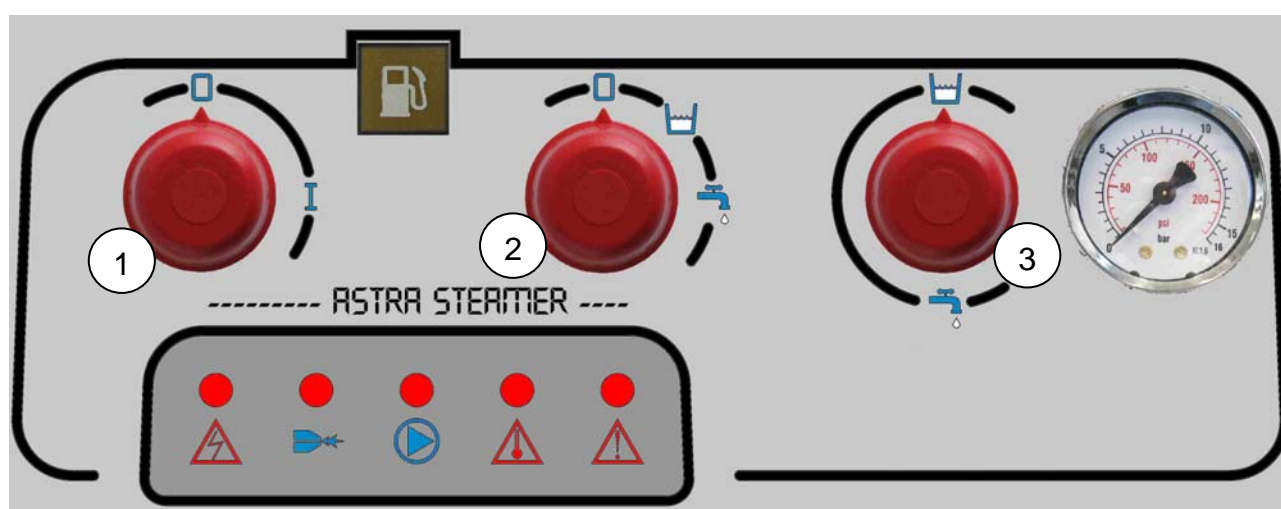
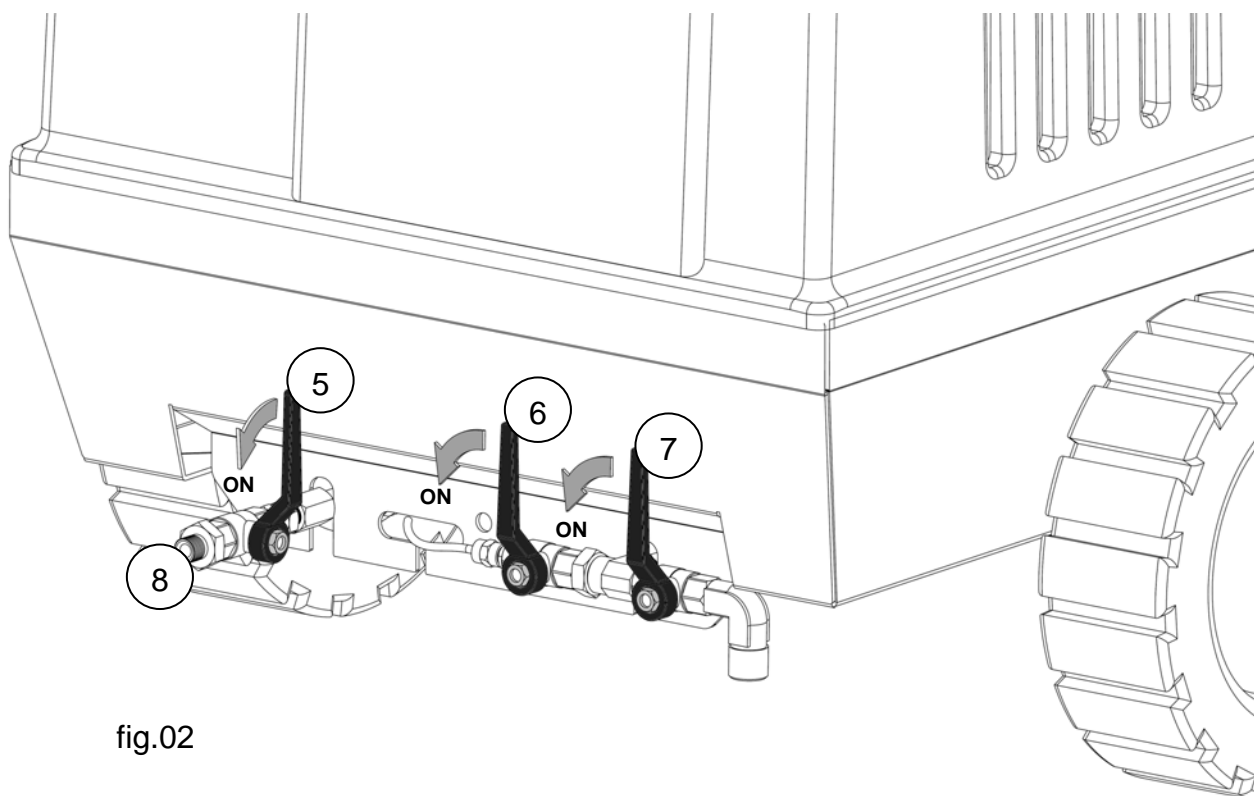

fig.01
fig.02
- a. Release the high pressure fittings n° 24 (fig.07) from steam hose n° 22 (fig.07). Connect the hose to the outlet fittings 8 or 9 (fig.02) tightening them well (do not use glue), then connect the steam hose to the steam gun 23 (fig.07) by tightening well the fittings (do not use glue).
- b. Open valve 4 or 5 corresponding to the outlet where you connected the hose (fig.02) check the other one is closed. If both the 2 outlets are connected (the double hose connection is predisposed) open both of them.
- e. In case of mobile operation, set the indicator of handle 3 (fig.01) to pos. , (in case of stationary operation please go to point f.) Check there is enough water in the apposite water tank and eventually add some through the intake 11 (fig.03).
- f. if You are using ASTRA STEAMER in stationary mode (connected to the water mains) set the indicator of handle 3 (fig.01) in position , connect the mains hose to the inlet fitting 12 (fig.03), then open the valve; when the water float tank is filled up, the flow will automatically stop.
- set the switch 1 (fig.01) on .
- set the second switch 2 (fig.01) on fixed operational mode  or in mobile one  depending on your choice at 2.e; 2.f. , then wait some seconds
If initial water level is under the minimum one, the machine produces 2 signals (one luminous and one sound):  + . If, after 60", the water level inside the boiler is still under the minimum the machine switches off for safety ; in this case, to go on with filling it You need to turn the switch 2 (fig.01) off (position ) and then turn it on to the operational mode chosen: stationary =  or mobile= .
- if, during cleaning operation the machine makes a signal  +  You need to refill the fuel tank as explained at 2.d. If the machine is working in mobile way and produces the signal  and not , refill the water tank as described at 2.e. Both the refill operations must be done only after positioning the switch 2 (fig.01) on ; Once finished the refill operations , position the same switch 2 (fig.01) on the operational mode chosen.
- In case You use the machine in mobile way and You need to remove the dirt by the flow power rather than temperature only, You can mix dry steam to water by the valve 6 (fig.02) so to operate more like a common pressure cleaner.
- e. **Switch off and appliance storing:** once finished cleaning operation, position switch 2 (fig.01) and switch 1 (fig.01) on ; open the gun to empty the steam left inside the boiler so to set the pressure down to zero, when pressure is 0, close valves 4 and 5 (fig.02) open the pistol to discharge the hose pressure completely.
→ If the machine is stored at temperature below to zero ($<0^{\circ}\text{C}$) remove the plastic cover by the screw 13 (fig.03), empty the water tank removing the hose 19 (fig.05) (apply a small pressure on the part 18 (fig.05)); empty the water float tank and the boiler by the valve 7 (fig.02). While keeping the above valve open turn, the switch 1 (fig.01) onto  and switch 2 (fig.01) onto  or  for 10 seconds to empty the water pump too. When no more water is flowing from the valve 7 (fig.02) close all the valves and reposition the switches 1 (fig.01) and 2 (fig.01) on . Finally, put the machine cover on the machine again.
- empty the water tank: take off the hose 19 (fig.05) by little pressure and the fixation bolt 18 (fig.05). empty the boiler by the discharge valve 7 (fig.02) and open the gun to get the air come into the boiler. After these 2 operations above, reconnect the hose 19 (fig.05) and close the valve 7 (fig.02);
- b. Empty the boiler by the valve 7 (fig.02) and the steam gun as well . Close the steam gun then